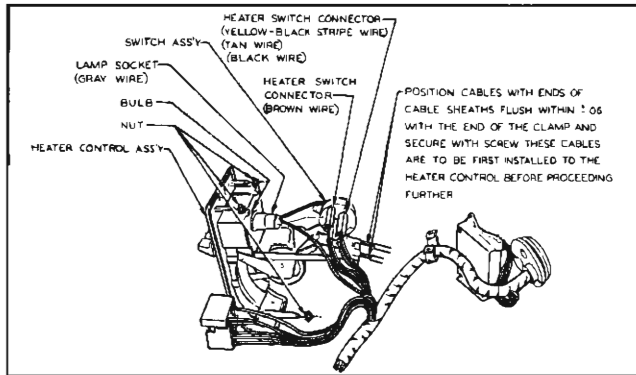

Fig. 12-5 Adjustment of Control Cables at Control Panel
1. Check to see that the temperature control valve cable housing extends no more than  $\frac{1}{16}$ " beyond the cable housing clamp on the control panel assembly (Fig. 12-5).
1. Check to see that the air cable housing does not extend any farther than  $\frac{1}{16}$ " beyond the cable housing clamp on the control panel (Fig. 12-5).